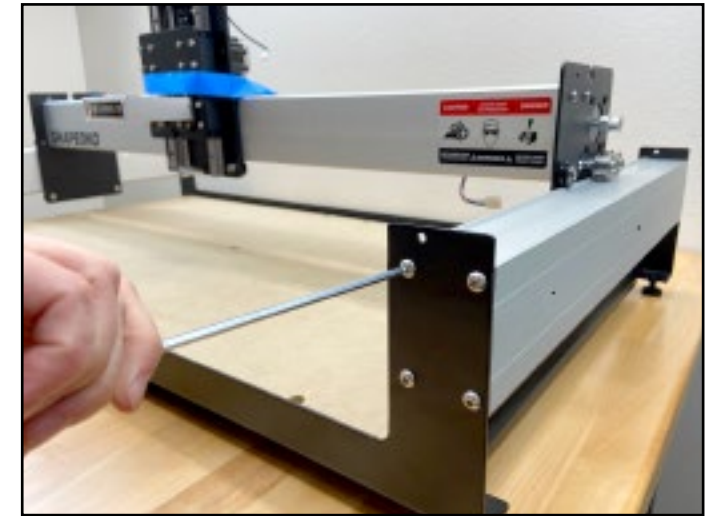

Figure 4-9
2. Use the 4mm hex key and eight (8) M6x12mm button head cap screws to secure the Y2-rail to the front and rear endplates. See **Figure 4-9**.